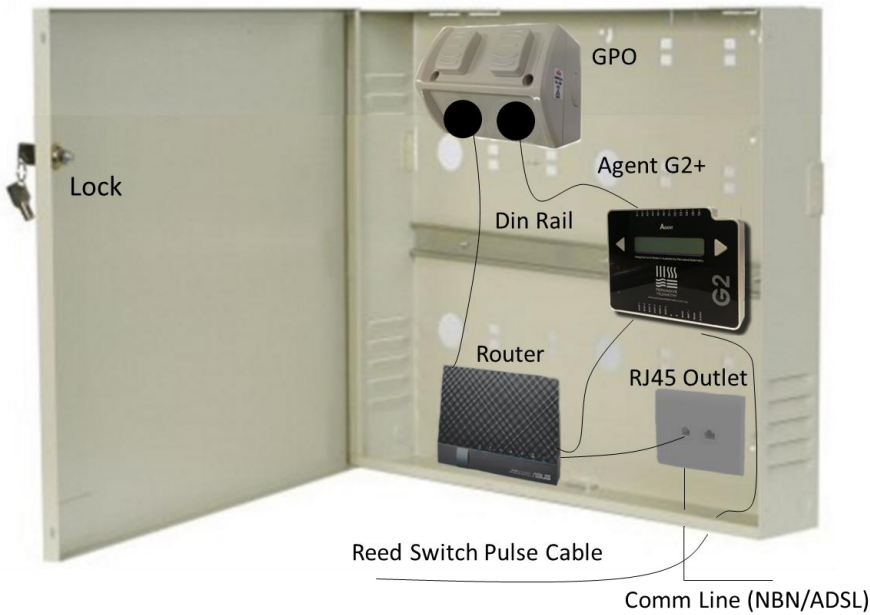

Figure 2 –
- Communication line from building communication room. It is a Cat 5e/6 data cable terminated via RJ45 modular plug as shown in Figure 2)